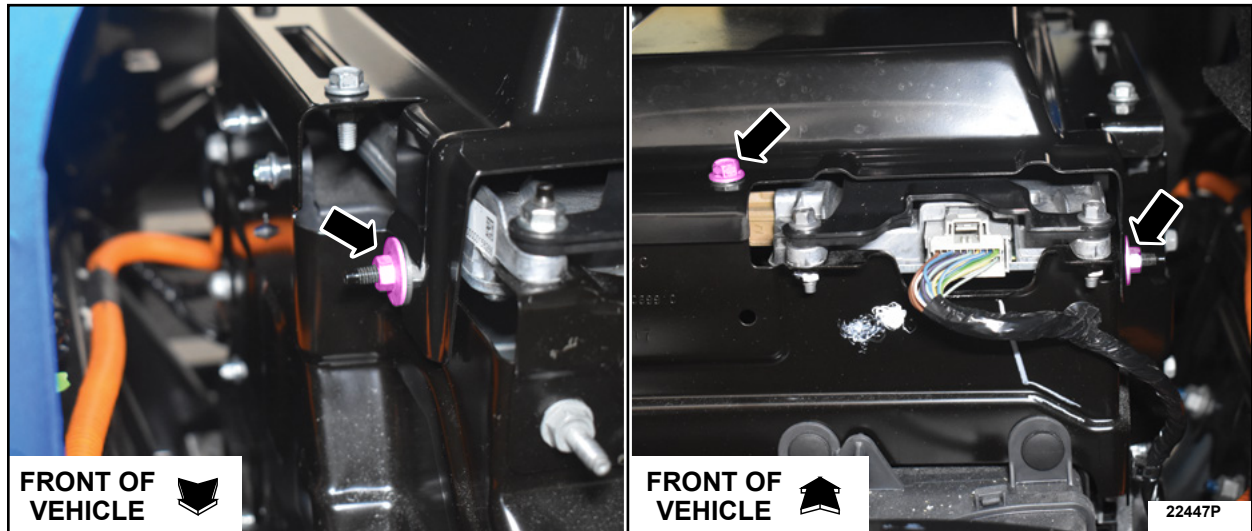

FIGURE 16
18. Install the rear bolt and the two side nuts. See Figure 16.